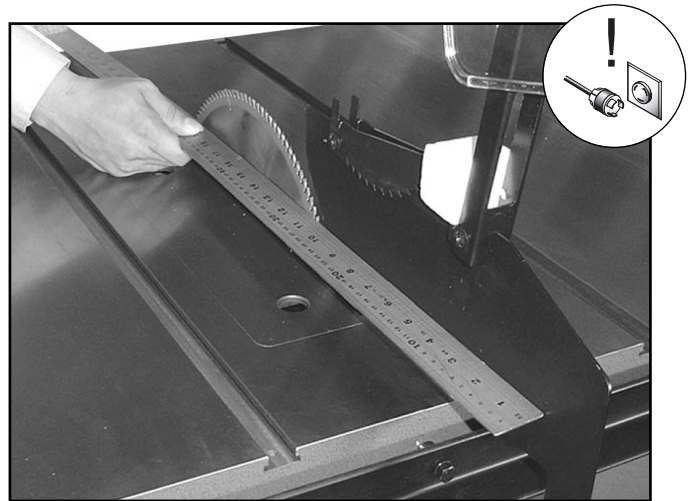

Figure 16. Guard aligned with blade.
3. Place a straightedge against the face of the saw blade and the blade guard/splitter as shown in **Figure 16**. If the blade guard/splitter is properly aligned, please skip ahead to **Section 5: Adjustments**; otherwise, continue with the next step.